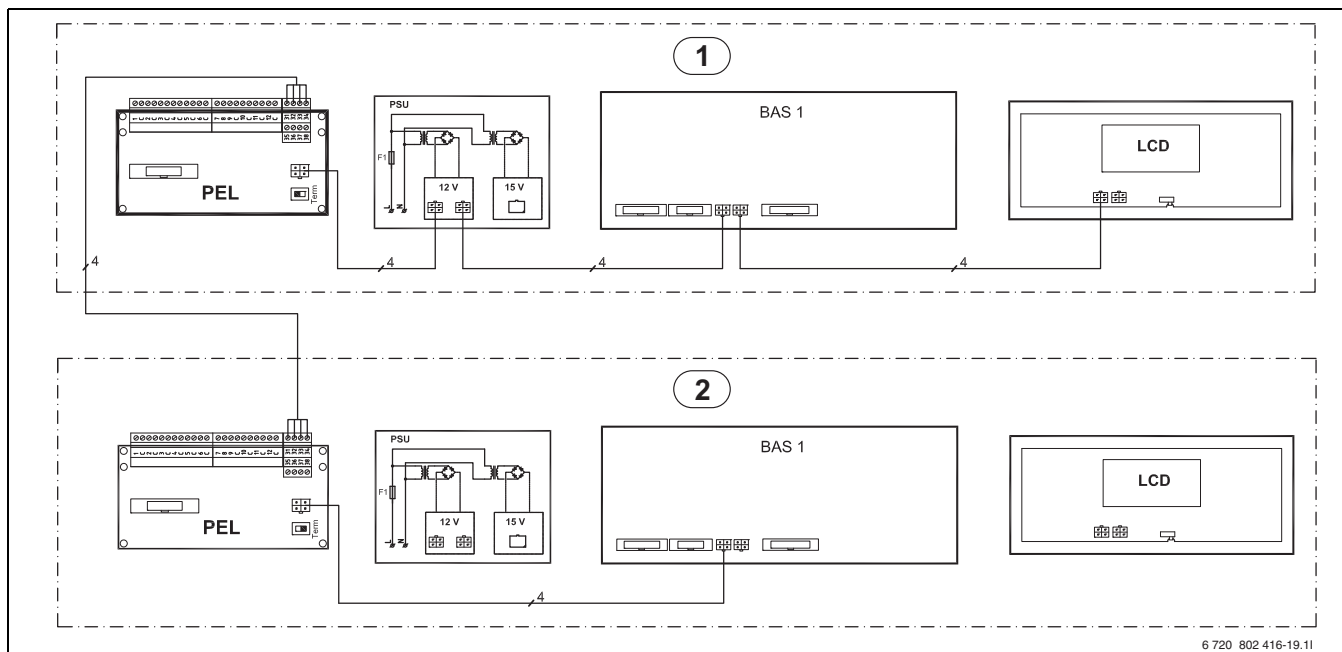

Fig. 40 CAN-BUS overview with two heat pumps
**NOTICE:** PSU and LCD (→ Figure 40) in heat pump 2 are factory connected, these must be disconnected and are not used in cascade connection
**i** The recommended cabling is cable type LIYCY (TP) 2x2x0.5. The cable must be twisted pair and screened. The screen must only be earthed at one end and to the chassis. Maximum cable length is 30 m.
4. Re-connect CAN-BUS with existing CAN-BUS cabling in heat pump 2 (→ Figure 40).